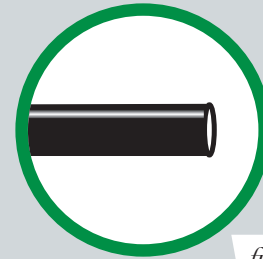

fig. 18
When cutting air lines, use a sharp knife or a hose cutter and make clean, square cuts (Fig. 18). Do not use scissors or wire cutters because these tools will deform the air line, causing it to leak around fittings. Do not cut the lines at an angle.
1. If there is a problem with the push-to-connect fitting, remove the air line as described above. Trim 1" off the end of the air line. Be sure the cut is clean and square (see Fig. 18).